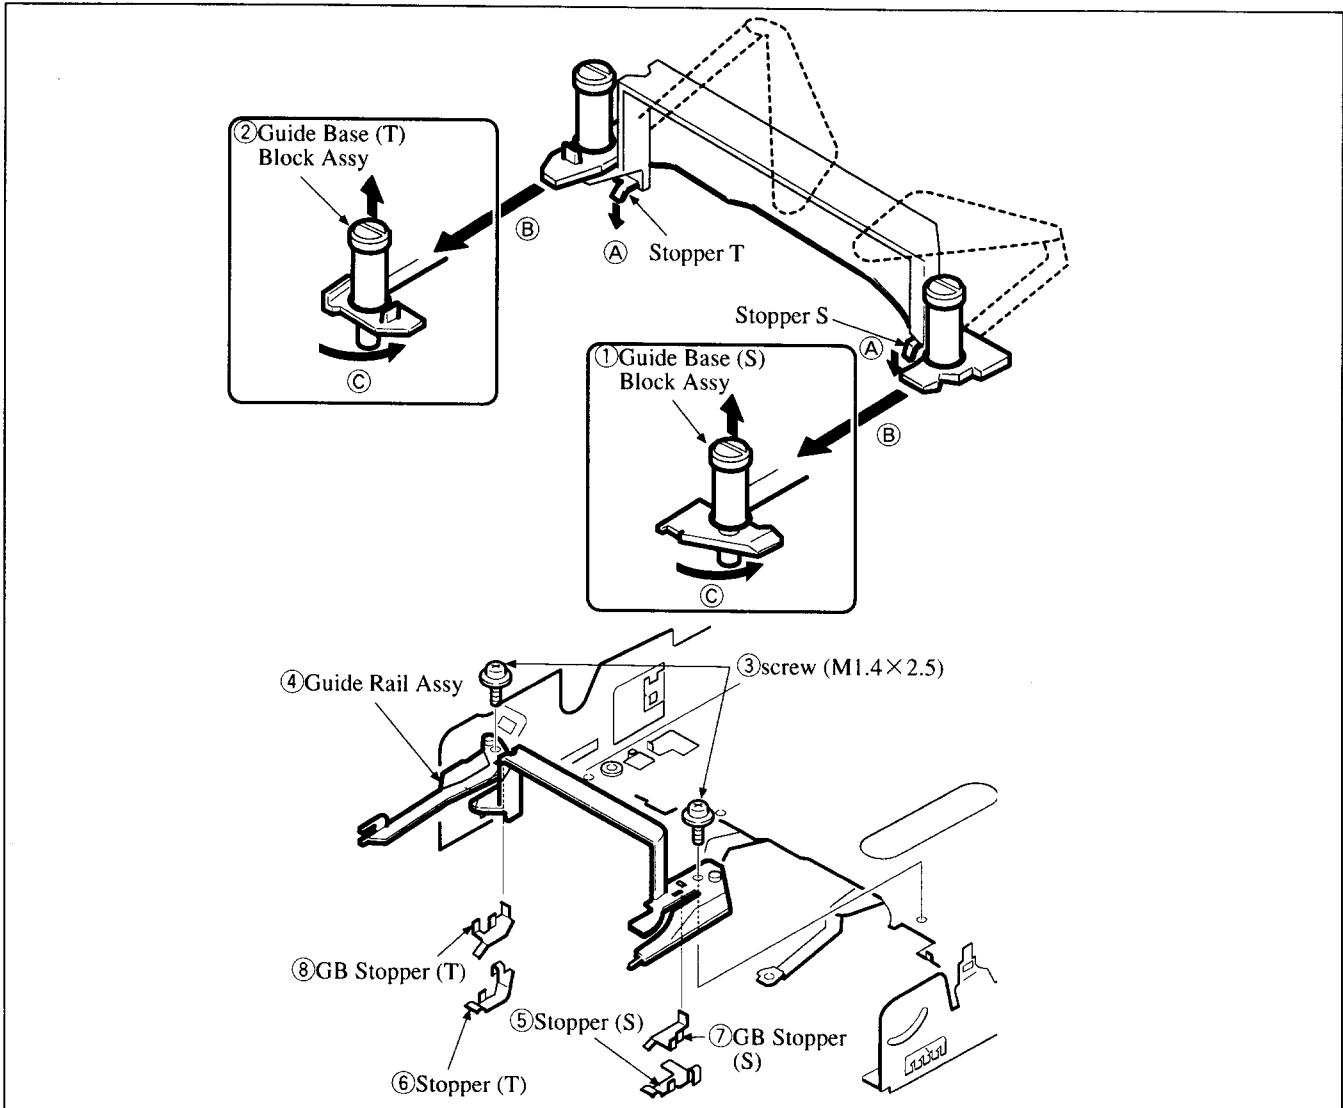

Fig. 15
### 3-10. Guide Base (S) and (T) Block Assemblies, Guide Rail (Refer to Fig. 15)